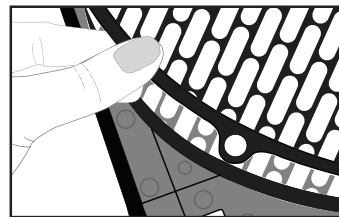

Fig. 18
4. Remove the pre-filter by gently pulling it off and away from the 4 posts. See Fig. 18
6. Replace the pre-filter by pushing the 4 loops of the filter onto the 4 posts of the grill. See Fig. 18